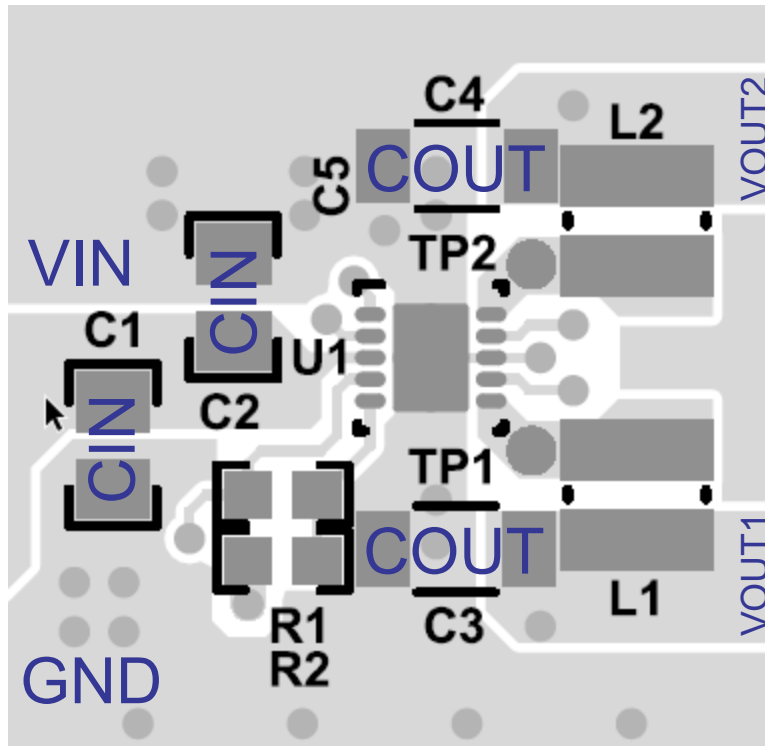

Figure 11-1. Layout Diagram
- It is critical to provide a low-inductance, low-impedance ground path. Therefore, use wide and short traces for the main current paths as indicated in bold in Figure 11-1.